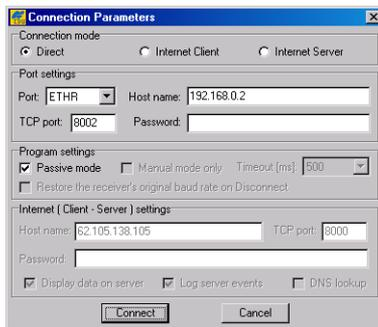

Figure 1-9. Ethernet Connection Parameters
9. Click **Connect** (Figure 1-9).